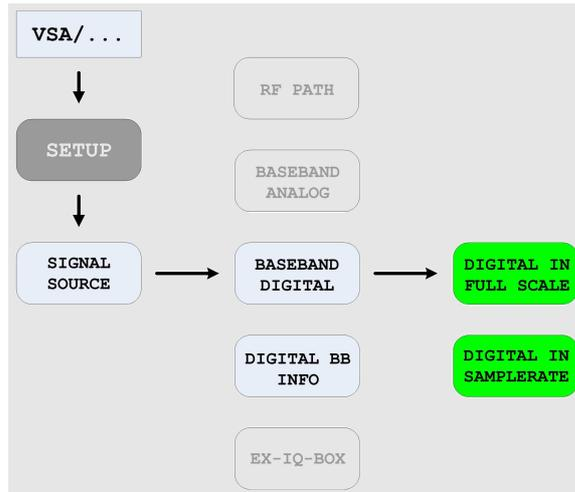

Figure 44: Configuring the FSQ for a digital baseband source
- ▶ Press the *SETUP* hardkey then the *SIGNAL SOURCE* and *BASEBAND DIGITAL* softkeys (see Figure 44).